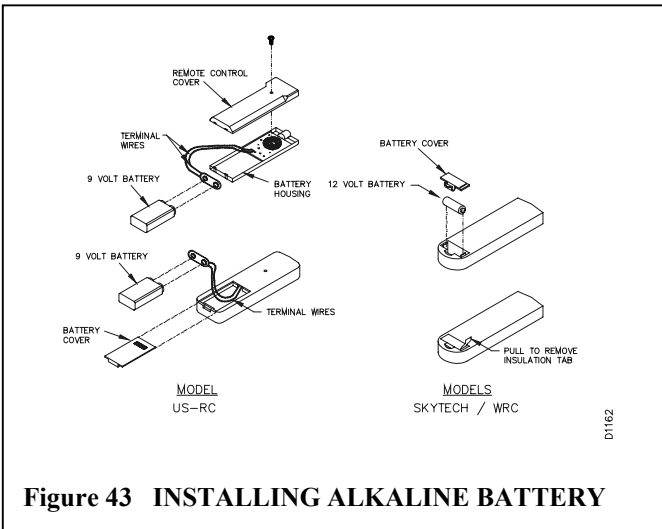

Figure 43 INSTALLING ALKALINE BATTERY
6. Install a 9-volt battery into the US-RC hand held remote by removing the screw on the back and lifting the case open. The SKYTECH model has a 12V battery preinstalled to activate the battery you must remove the insulating tab on the back of the handset (see figure 43).
5. Activate the handset battery by removing the insulating tab on the back of the handset see figure 43).